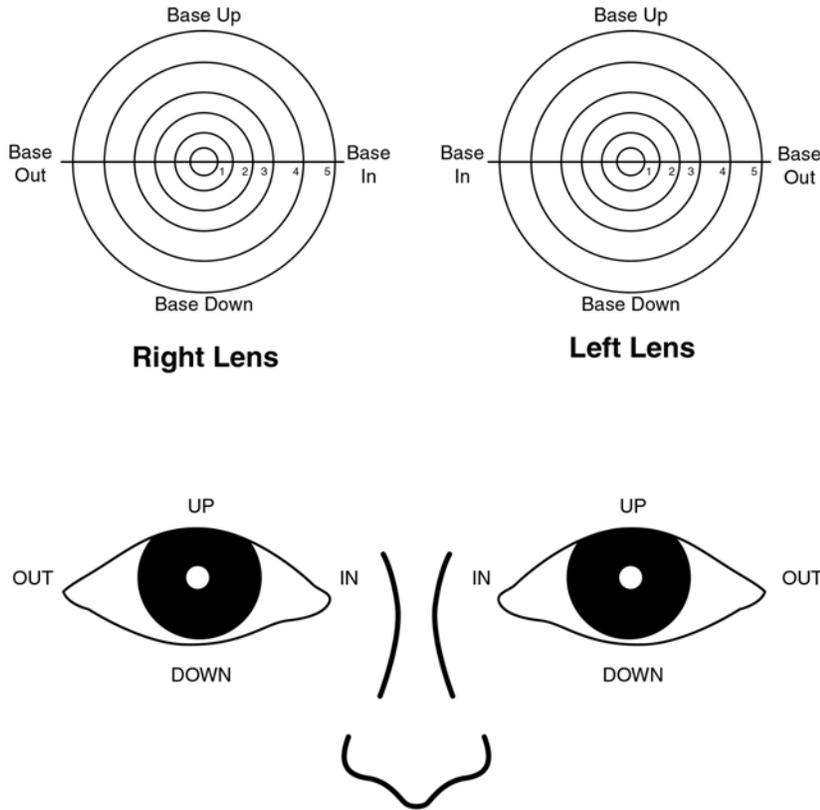

FIGURE 12
- A. Prism moves (deflects) the lensometer target away from the center of the reticle. The target is deflected in the direction of the prism base. Base directions are up, down, in and out. Base-in and base-out are specified relative to the eye. (This can be confusing.) Base-in (BI) prism is present when the target deflects toward the nose (the bridge of the glasses, or nasally). Base-out (BO) prism is present when the target deflects toward the temples (Figure 12).